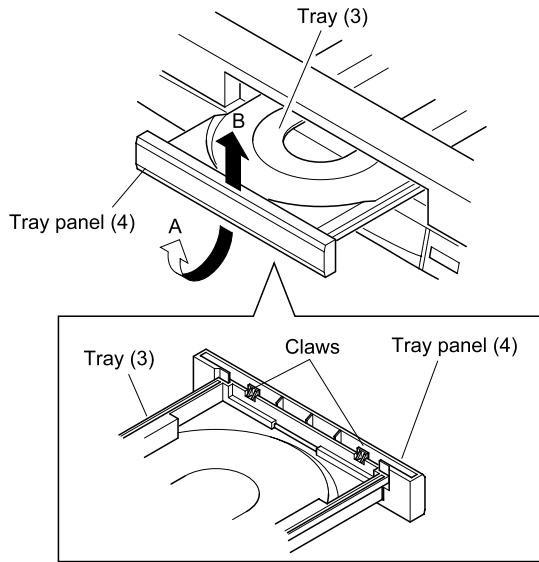

Fig. 2-1-5
1. Eject the tray (3).
2. Twist the tray panel (4) a little in the arrow A direction with the tray (3) hold by hand to release two claws and lift up the tray panel (4) in the arrow B direction, then the tray panel (4) is removed. (Refer to Fig. 2-1-5.)
3. When mounting the tray panel (4), insert the tray panel (4) along the grooves of the both sides of the tray (3) until clicking.